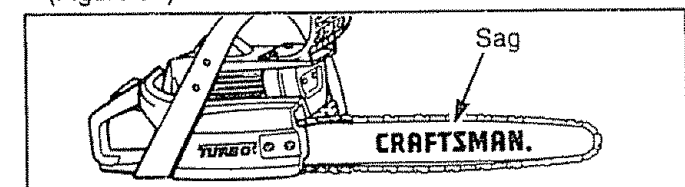

Figure 52
- If chain is too loose, it will sag below the guide bar (Figure 52).